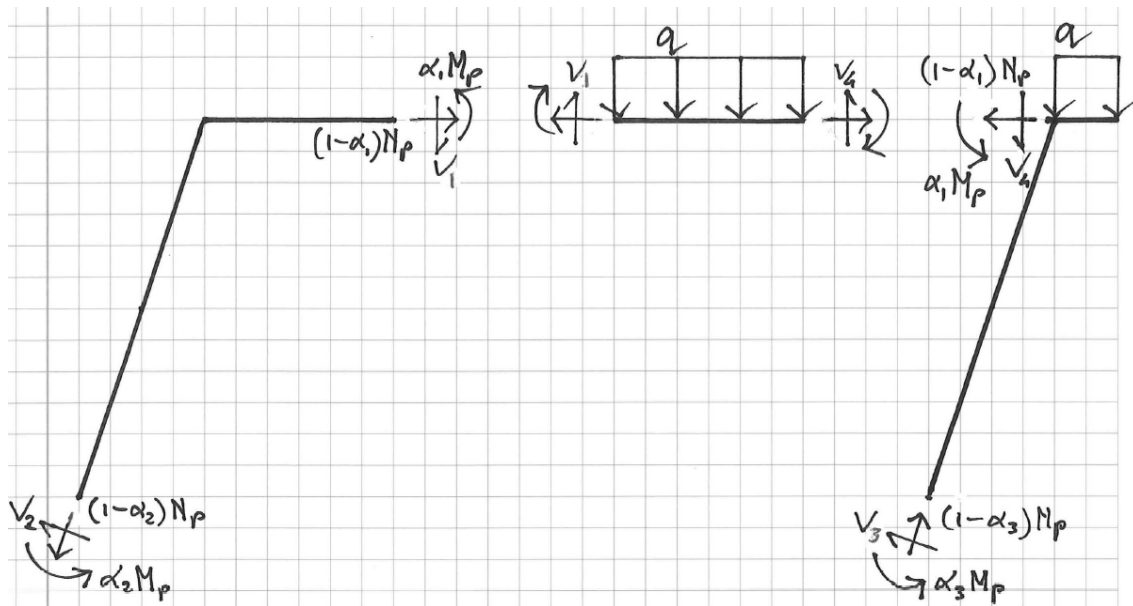

Figure 3. Equilibrium system for including M-N interaction
- Use Figure 3 to determine the largest lower-bound for q .